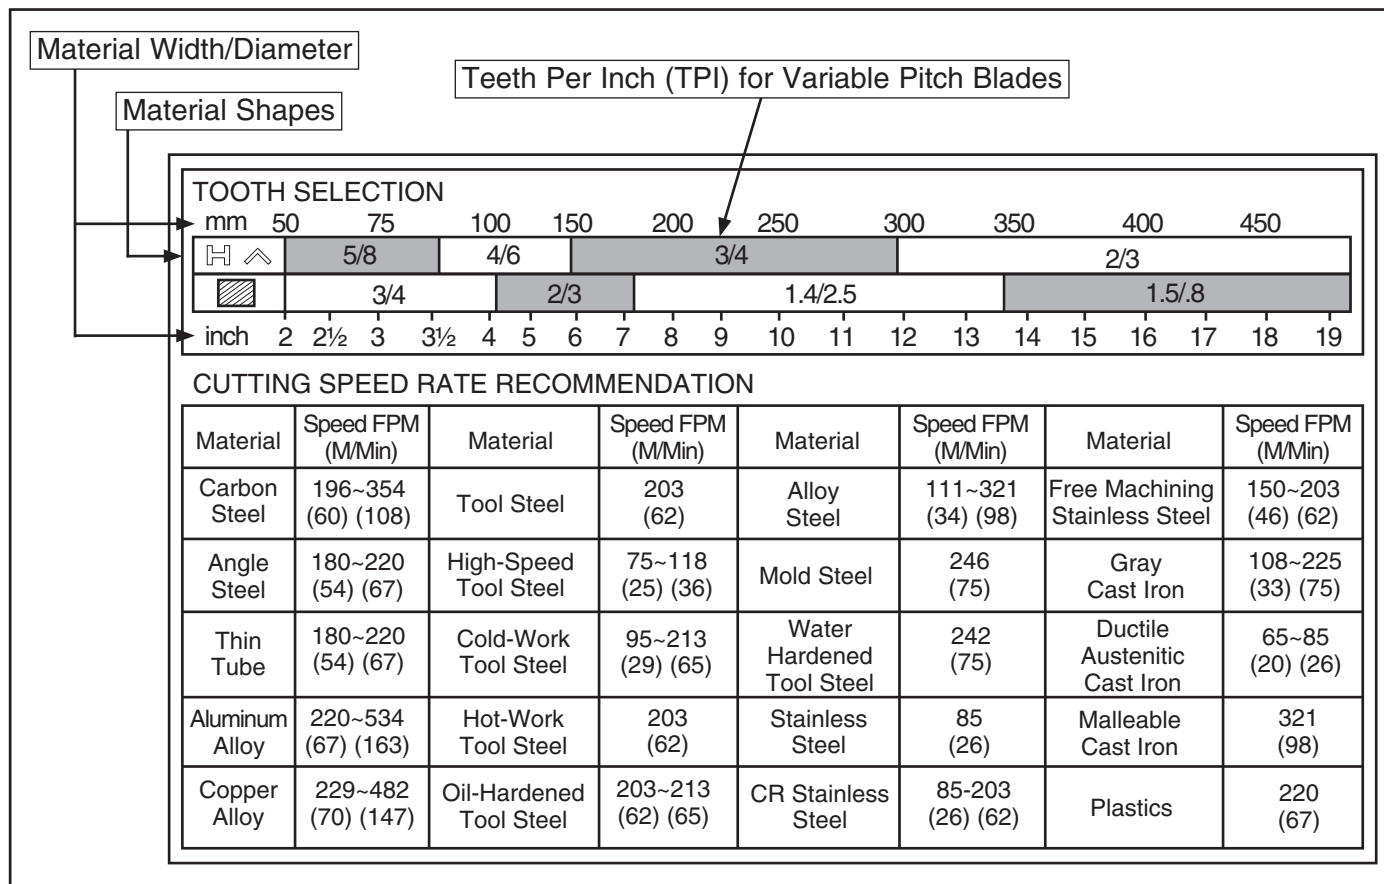

Figure 15. General guidelines for blade selection and speed chart.
2. Refer to the "Material Width/Diameter" row of the blade selection chart in **Figure 15**, and read across to find the workpiece thickness you need to cut.